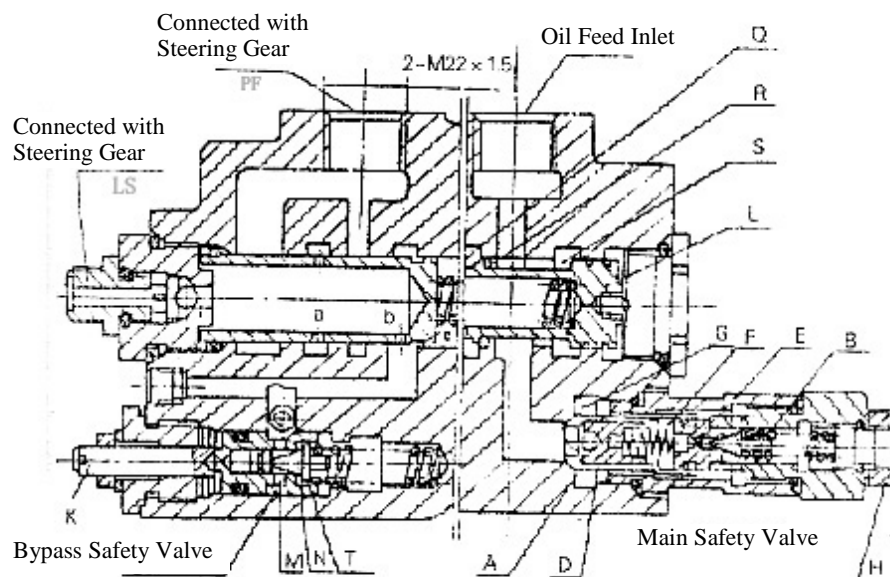

Fig 7-5
7.3.2 Main Safety Overflow Valve and Bypass Safety Valve (Fig 7-5)